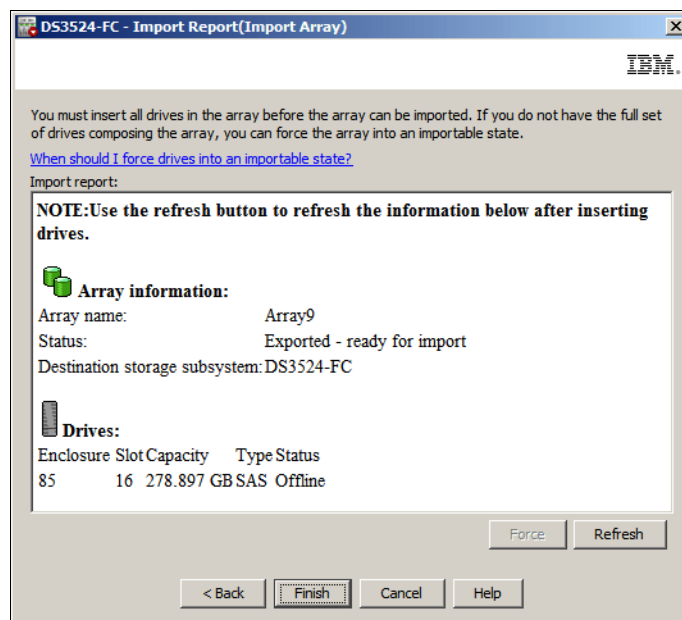
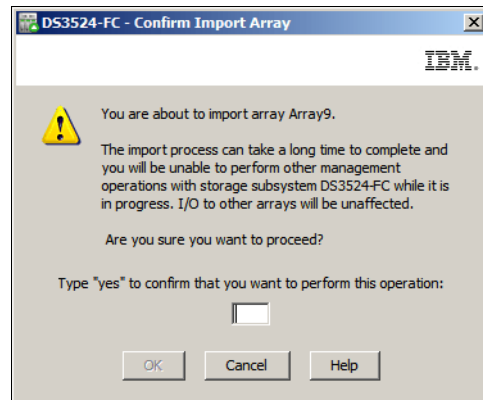

Figure 14-110 Import Array (Import Array)
Figure 14-111 Confirm Import Array
3. The **Import Array (Import Array)** window is displayed as shown in Figure 14-110. This window displays the array information and associated disk drives.
- Click the **Finish** button in Figure 14-110 on page 399 to import the array. The **Confirm Import Array** window as shown in Figure 14-111 will appear. Type yes and then click **OK** to continue.